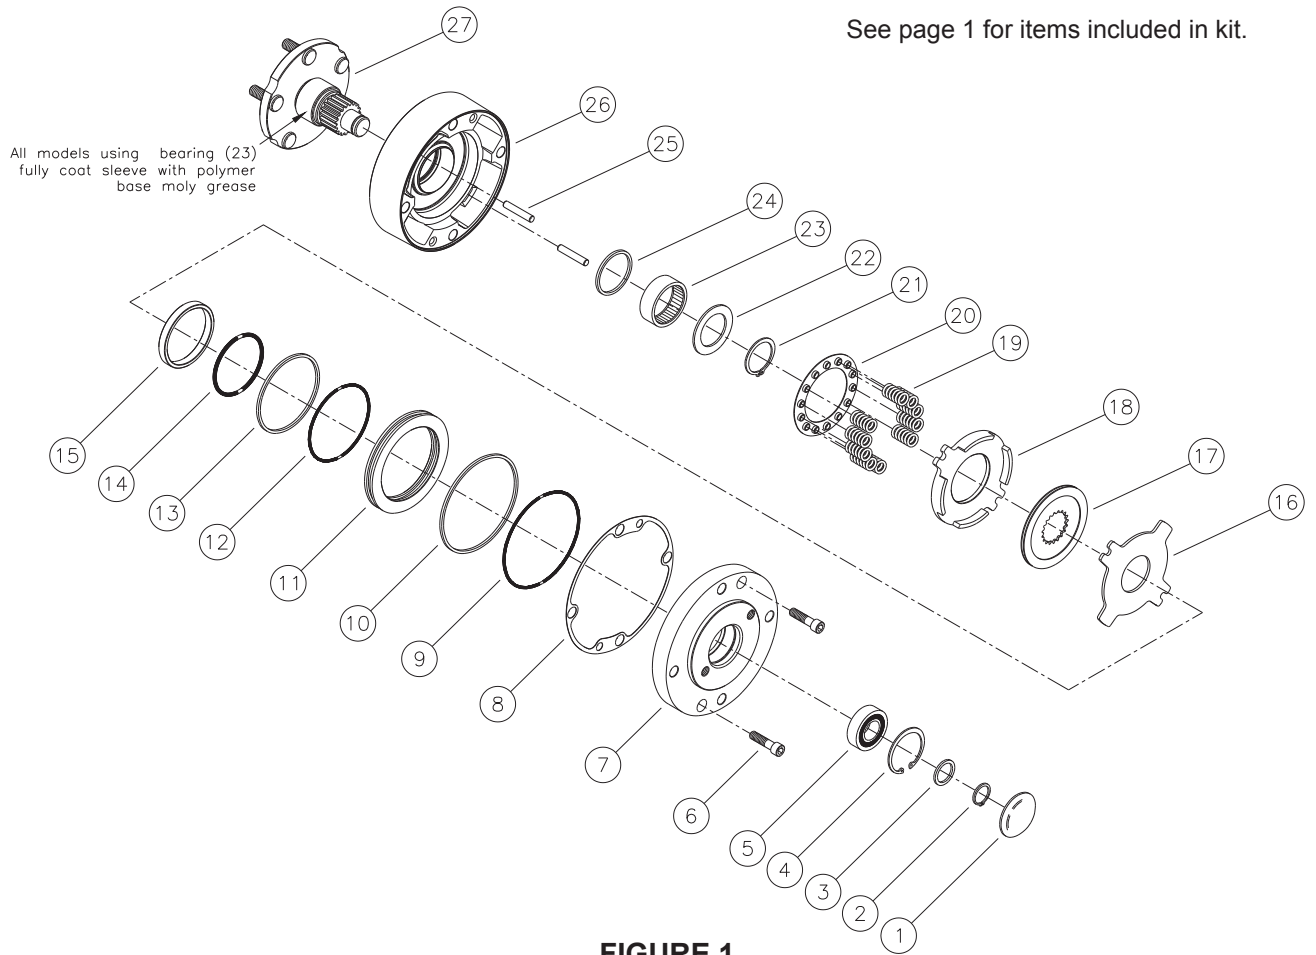
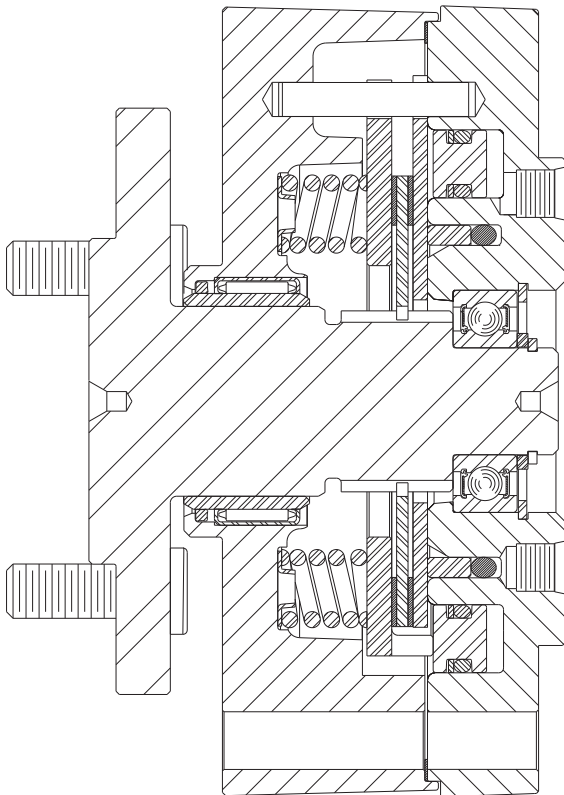
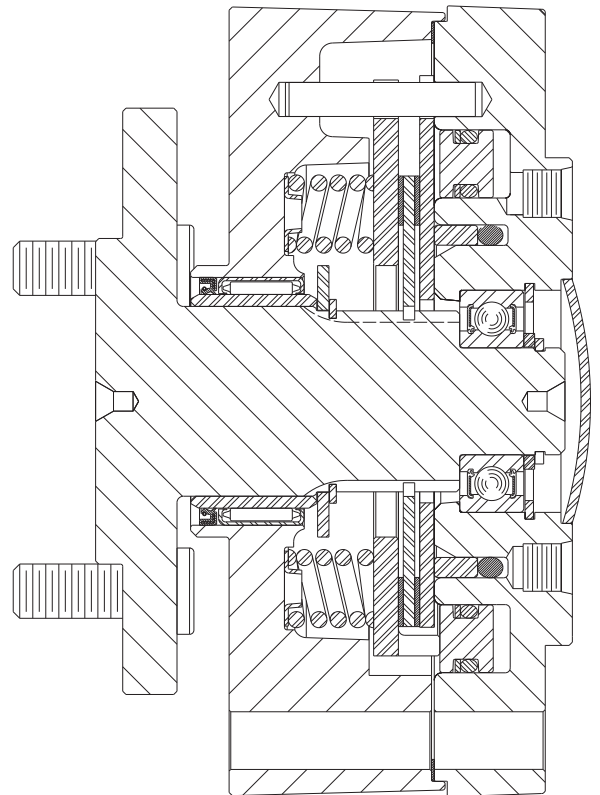

FIGURE 1
FIGURE 2
FIGURE 3
(Refer to Figures 1, 2, and 3)
2. Press new bearing (23) into cover plate (26) until it is flush with the inside surface of cover plate (see Figure 3) or until it bottoms on the bore step (see Figure 2).
3. Install new oil seal/quad ring (24) in cover plate (26). Note direction of oil seal (24). **NOTE: Earlier design used a quad ring and later design uses an oil seal.**
4. Install shaft (27) in cover plate (26). **NOTE: Coat the area on shaft (27) shown in Figure 1 with polymer base moly grease before installing.**
5. Install washer (22) and retaining ring (21) on shaft (27). **NOTE: Earlier design did not use retaining ring or washer.**
6. Install dowel pins (25), spring retainer (20), and new springs (19) in cover plate (26). Be sure to install new springs (19) according to the spring pattern recorded during disassembly. Contact MICO if you have questions regarding spring pattern.
7. Install new return plate (18), new rotor discs (17), and new stator discs (16) over dowel pins (25) and spline of shaft (27).
8. Press new bearing (5) into pressure plate (7) and install retaining ring (4).
9. Install new o-rings (9 & 12) and new back-up rings (10 & 13) on piston (11). Note the order of o-rings and back-up rings. **NOTE: Be careful not to scratch or mar piston.**
10. Carefully install piston (11) into pressure plate (7). Note direction of piston (11). Be careful not to shear o-rings or back-up rings.
11. Carefully insert new o-ring (14) and piston (15) into pressure plate (7). **NOTE: Be careful not to scratch or mar piston.**
12. Install new case seal (8) on cover plate (26).
13. Position pressure plate (7) on cover plate (26) aligning dowel pins (25) with the holes in pressure plate. Install cap screws (6) and tighten evenly to draw pressure plate (7) to cover plate (26). Torque cap screws 47.5-54.2 N·m (35-40 lb·ft).